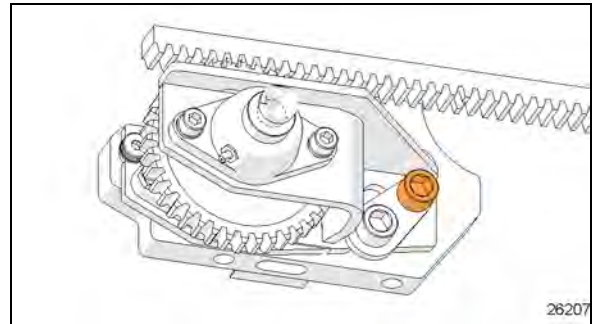
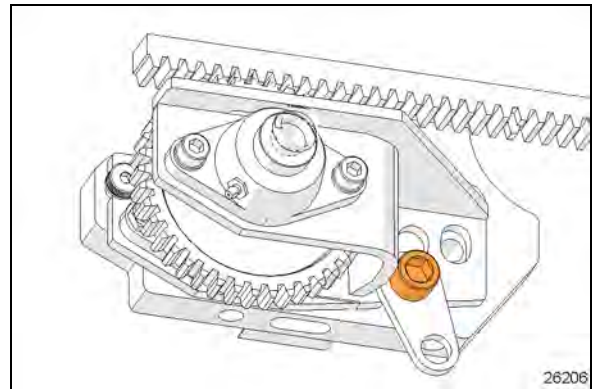

FIGURE 35: REMOVE UPPER SCREW
FIGURE 36: LOWER SCREW, TENSION RELIEVED
1. Remove upper screw as shown in Figure 35
2. Slightly unscrew the lower screw to remove tension on tab. (Figure 36)
6. Pull shaft (1) out
7. Remove old pinion gear (3). If key is damaged, replace with new.
8. On shaft (1), install thrust bushing (6), key (5), new pinion (3) and thrust washers (4).
9. Push shaft through bottom locking collar (2) and bottom pillow bearing until the shaft end contacts the bottom mounting plate.
10. Maintain shaft in contact with plate and lock bottom collar (2).
11. Using a drift and hammer, tension the eccentric locking collar (2) by means of one or two strong blows. There is a cavity on the collar made for that purpose.
15. On the pinion assembly, tighten upper and lower screws (Figure 35, Figure 36) to: